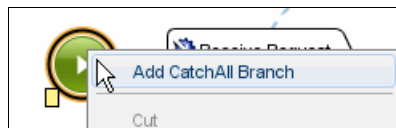

Figure 10-44 Global CatchAll
1. Right-click the starting point of the orchestration, and select **Add CatchAllBranch**, as shown in Figure 10-44, to create a new branch.